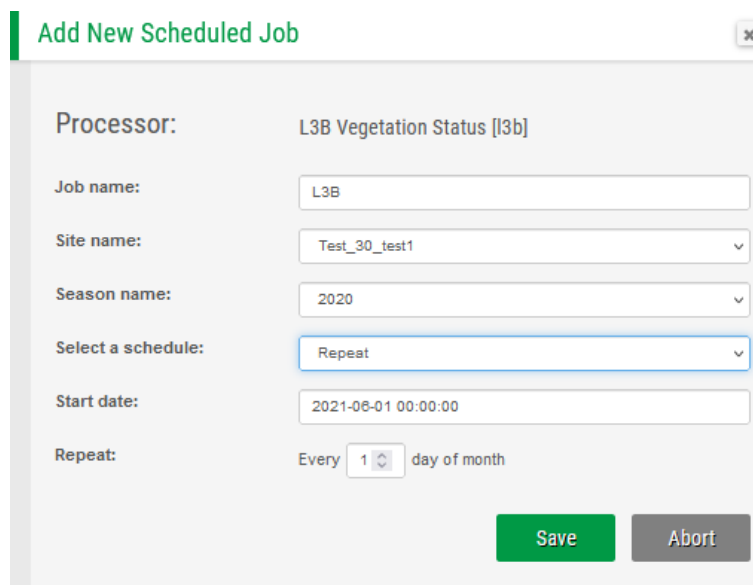

Figure 4-32. Adding “Repeat” scheduled type
- “Repeat” – this option allows to schedule a task at a certain date and then to reschedule the task at a certain day of the month (Figure 4-32). For example, a configuration with the start date of 1st of March and “On every” set to 4 will execute first on 1st of March, then on 4th of March, then on 4th of April, then on 4th of May and so on.